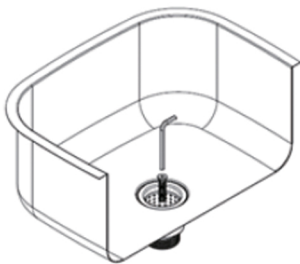

FIG 3
d) Hold main body of the scraptrap under the 90mm outlet, screw the centre bolt through the fixed basket into the main body from the top of the sink. Tighten with Allen key provided as shown in Fig 3.